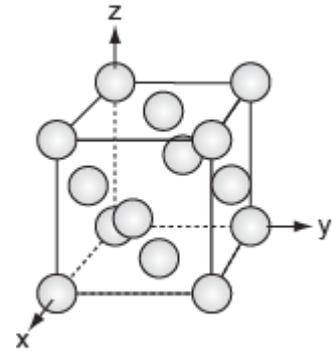

Figure C33. The FCC unit cell.
**E26.** The sketch of Figure C33 shows the FCC unit cell, the structure of copper, nickel and aluminum.